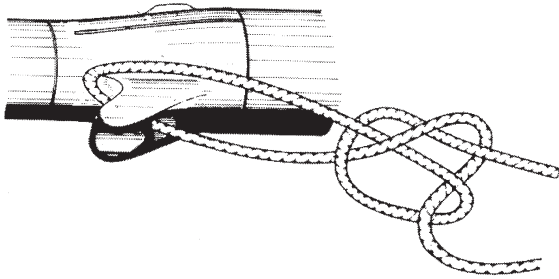

Fig. 7
- e) Thread the remaining end of the shock line through the line holder on the nose cone. Pull on the loose end of the shock line until the elastic expansion ring has expanded approximately $\frac{3}{4}$ of an inch. Tie the shock line to the nose cone maintaining this tension (Fig. 7).
Fixer la drisse à l'ogive avec le sandow maintenant la tension. (Fig. 7)